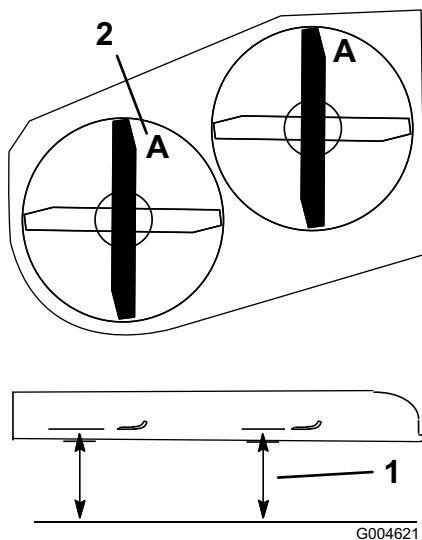
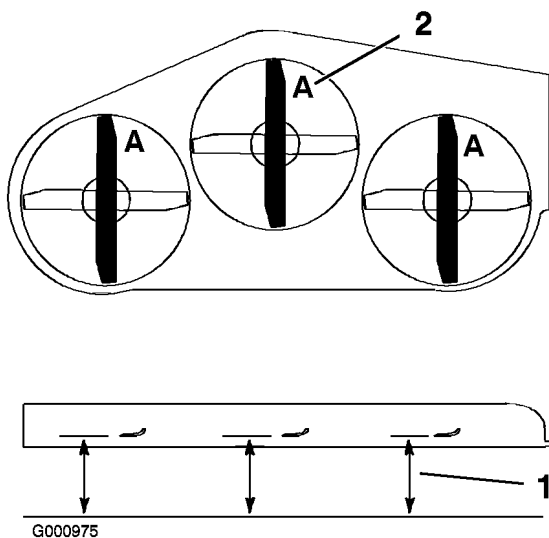

Figure 54
Figure 55
14. The right blade at the front position (Figure 54 or Figure 55) needs to be the same height as the left blade at the front position.
3. Rotate the blades until the ends face forward and backward (Figure 54 or Figure 55). Measure from a level surface to the cutting edge at position **A**, of the blades (Figure 54 or Figure 55). Note this dimension.